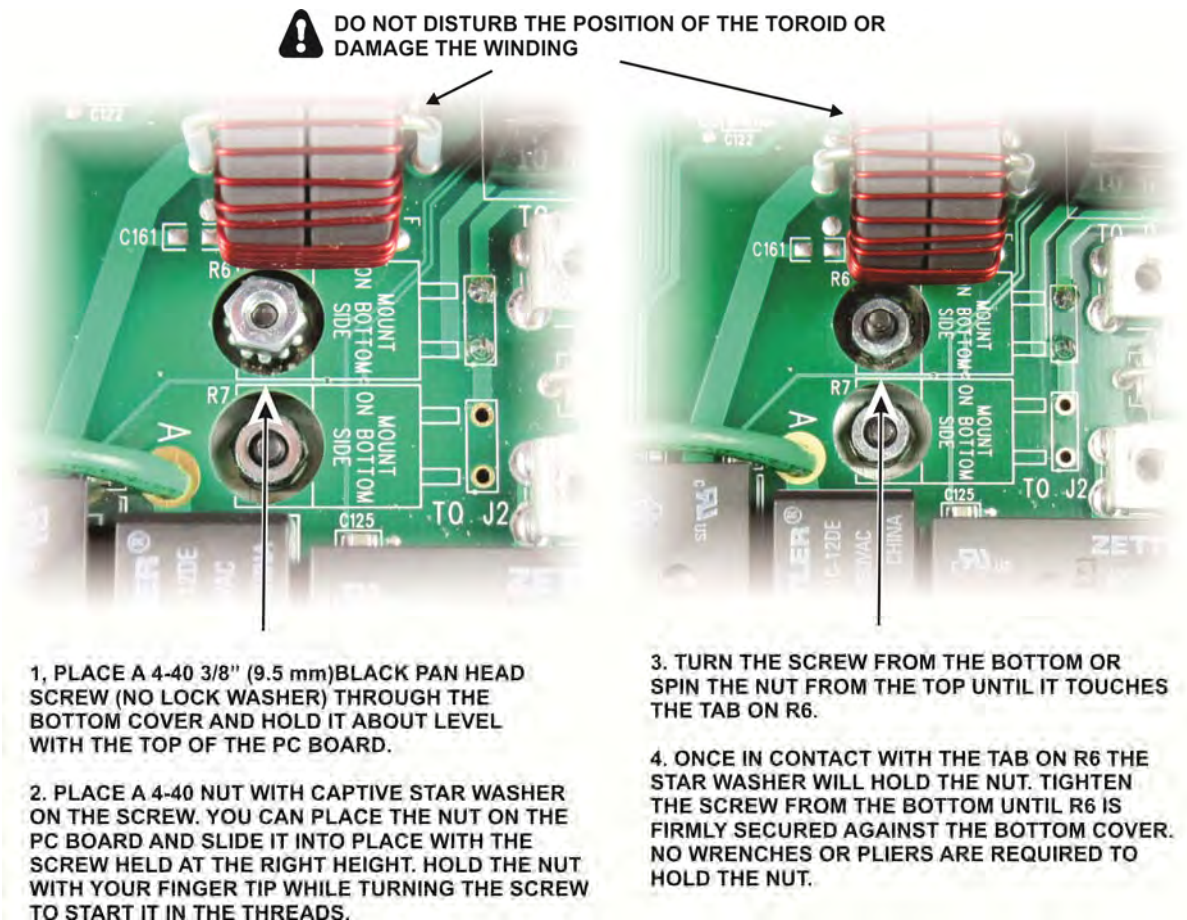

Figure 14. Installing the R6 Mounting Hardware.
- Turn the assembly over so the pc board is on top and install the R6 mounting hardware as shown in Figure 14 to secure R6 against the bottom cover.